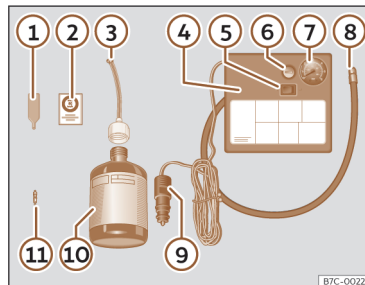

Fig. 248 Standard display: contents of the anti-puncture kit.
>>> **Fig. 248:**
- Unscrew the tyre valve cap and insert. Use the device >>> **Fig. 248 ①** to remove the valve cap. Place it on a clean surface.
- Shake the tyre sealant bottle vigorously >>> **Fig. 248 ⑩**.
- Screw the tyre inflation hose >>> **Fig. 248 ③** into the tyre sealant bottle. The bottle's seal will break automatically.
- Remove the filler cap >>> **Fig. 248 ③** and screw the open end of the tube into the tyre valve.
- Replace the howitzer with the device >>> **Fig. 248 ①** onto the tyre valve.
- Screw the tyre inflation tube of the compressor >>> **Fig. 248 ⑧** on the tyre valve.
- Check that the air evacuation screw is closed >>> **Fig. 248 ⑥**.
- Attach the connector >>> **Fig. 248 ⑨** to the vehicle's 12 volt power outlet >>> page 244.
- Switch on the air compressor with ON/OFF switch >>> **Fig. 248 ⑤**.
- Attach the sticker >>> **Fig. 248 ②** to the instrument panel display, within the driver's field of vision.
Screw in the inflator tube >>> Fig. 248 ⑧ again and check the pressure on the gauge ⑦.